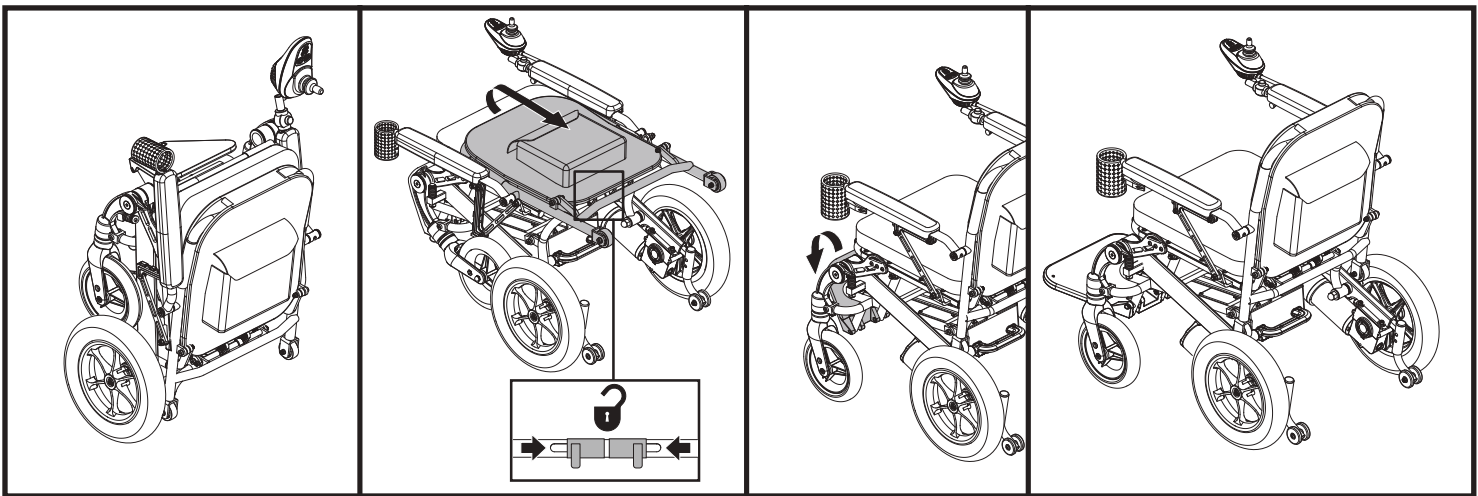

Figure 7. Unfolding the Jazzy Passport
2. Place one hand on top of the seatback and push it downward while squeezing the pins of the locking mechanism together. **See figure 7.**